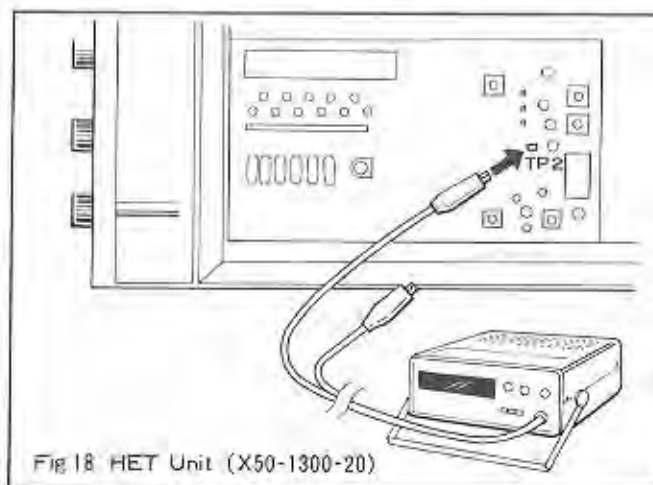

Fig. 18 HET Unit (X50-1300-20)
2. Connect a frequency counter to the point TP2 (Fig. 18) in HET unit (X50-1300-20). The frequency counter should be capable of reading up to 10 MHz.